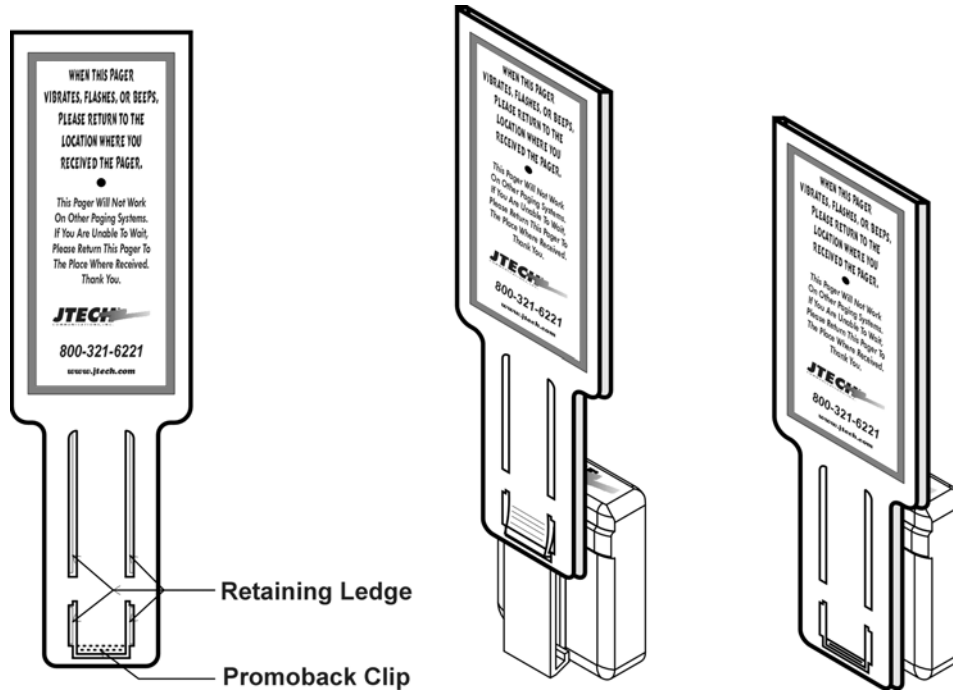

Fig. 4 – RapidCall Pager with Promoback
2. To remove the promoback, depress the clip on the lower portion of the promoback and slide the pager belt-clip to the bottom portion of the promoback (Fig. 4.)